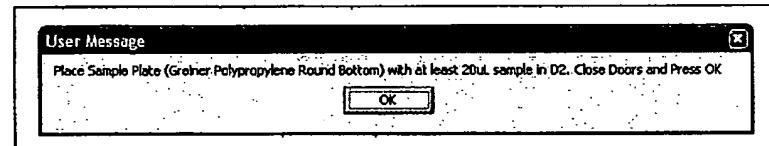

Figure B.3
3. After priming and initialization, the message, illustrated in Figure B.3, will prompt you to remove the Bio-Rad 96-Well Hard-Shell PCR Plate in D2 and replace it with the Greiner U-bottom sample plate with at least 20 µL of sample.